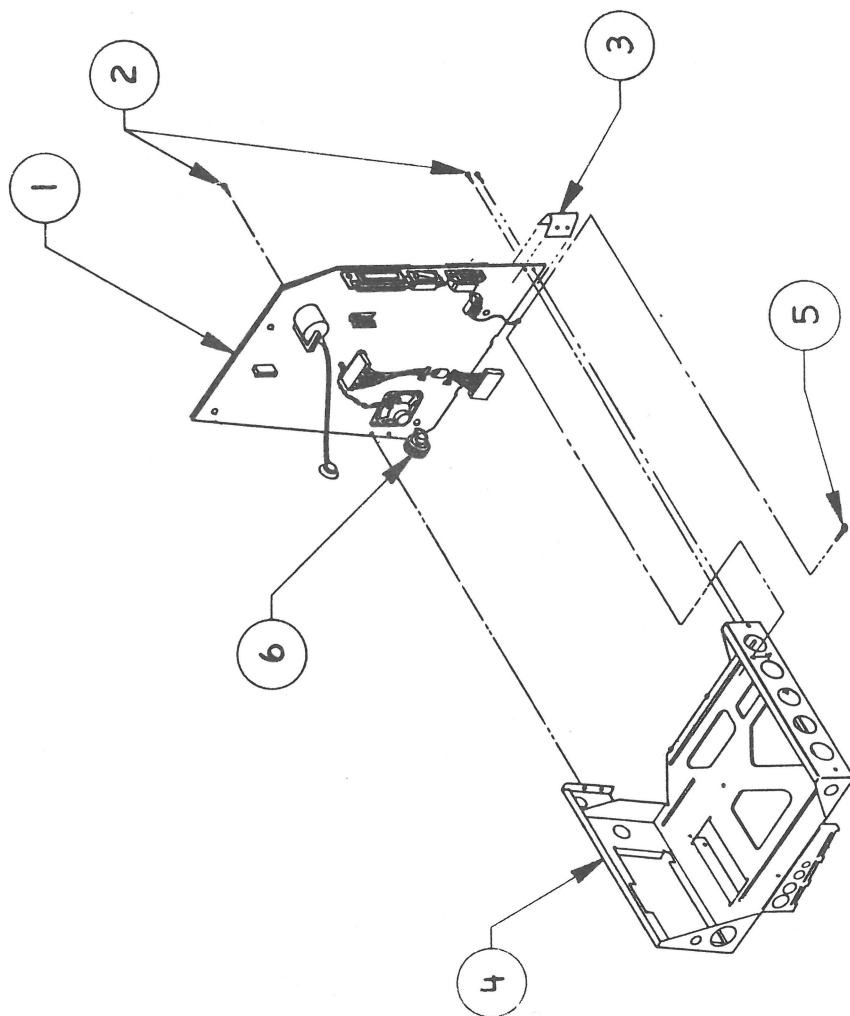

FIGURE 2
- 7.5 Macintosh Plus Chassis & Power Supply (Figure 2)
SUPPLY (Figure 2)**